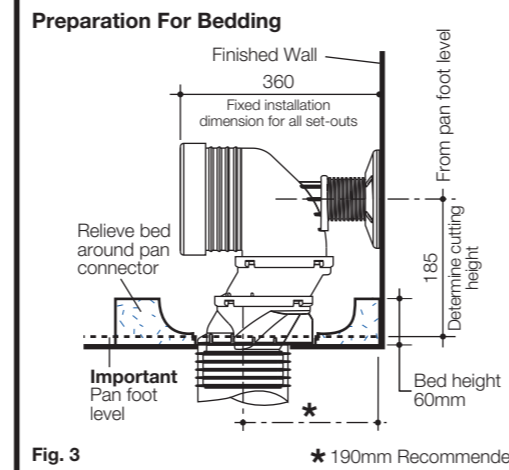

Fig. 3
- 4- Prepare bedding sand cement mixture 3:1 to depth of 60mm, as detailed in Fig. 3. **Note:** Do not fill the foot of the pan with bedding mix or include lime or fast drying cement into the mix, these may cause cracking in the foot of the pan.